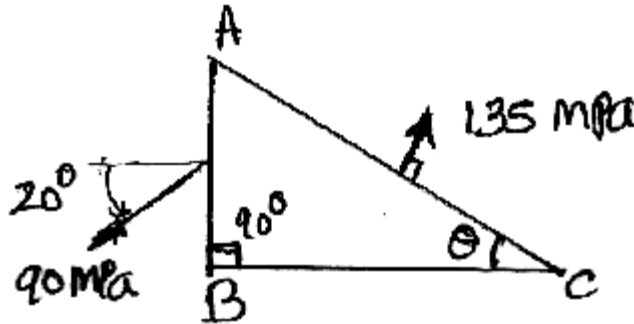

Fig. 11
9. (a) A triangular prism is subjected to two-dimensional stress, the planes subjected to stress being perpendicular to the plane of triangle ABC [Fig. 11]. AC is principal plane. On AB there is a tensile stress of 90 MPa having an angle of obliquity of 20° as shown and on BC there is also an oblique stress.